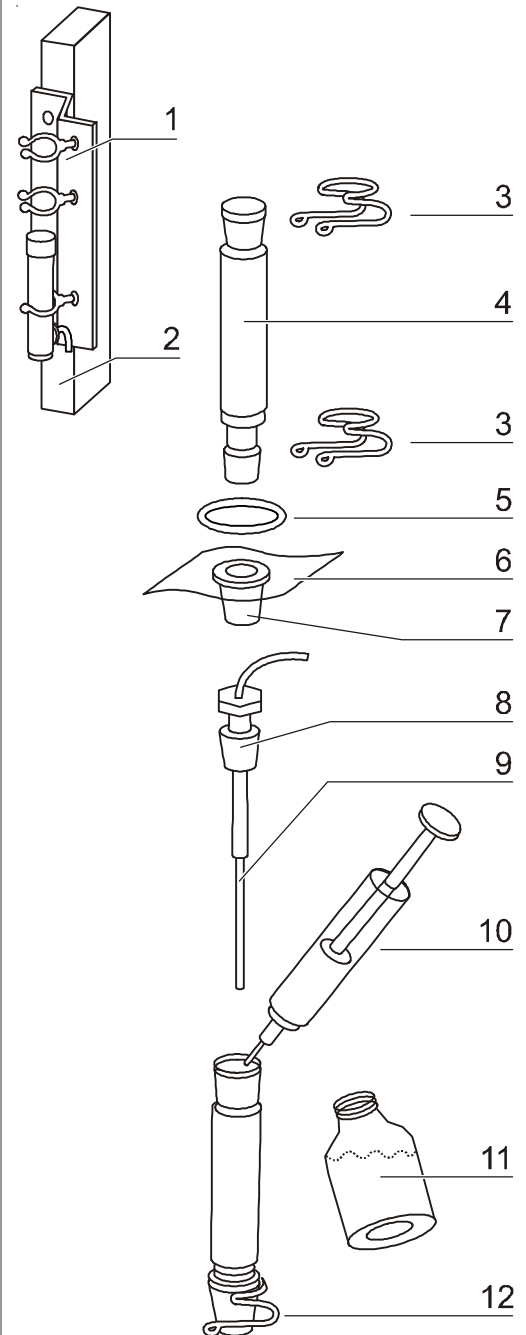

Fig. 19
1. **Fig. 19:** Install electrode holder [1] to lift linkage [2] (right front).